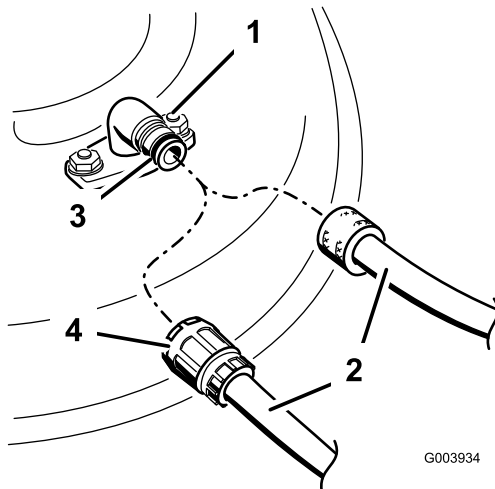

Figure 62
3. Attach the hose coupling to the end of the mower-washout fitting and turn the water on high (Figure 62).